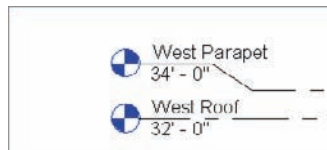

FIGURE 3.24 Using the display bubble toggles to switch the display to the appropriate side of the building
2. Display the bubbles to the *left* side of the level line by selecting the Show Bubble box. It should now look like Figure 3.24 (you will have to add those elbows again).